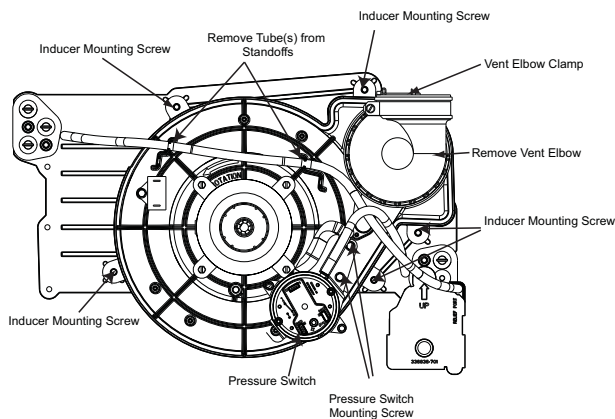

Fig. 1 - Loosen Vent Pipe Clamp
4. Loosen clamp for the vent pipe at vent elbow on the inducer assembly. See Fig. 1.
1. Remove the front pressure switch tube from the port on the collector box. See Fig. 1.
NOTE: If the condensate trap is removed, a new gasket between the trap and collector box is required. Obtain one from your local distributor. See Fig. 1 and Fig. 7.